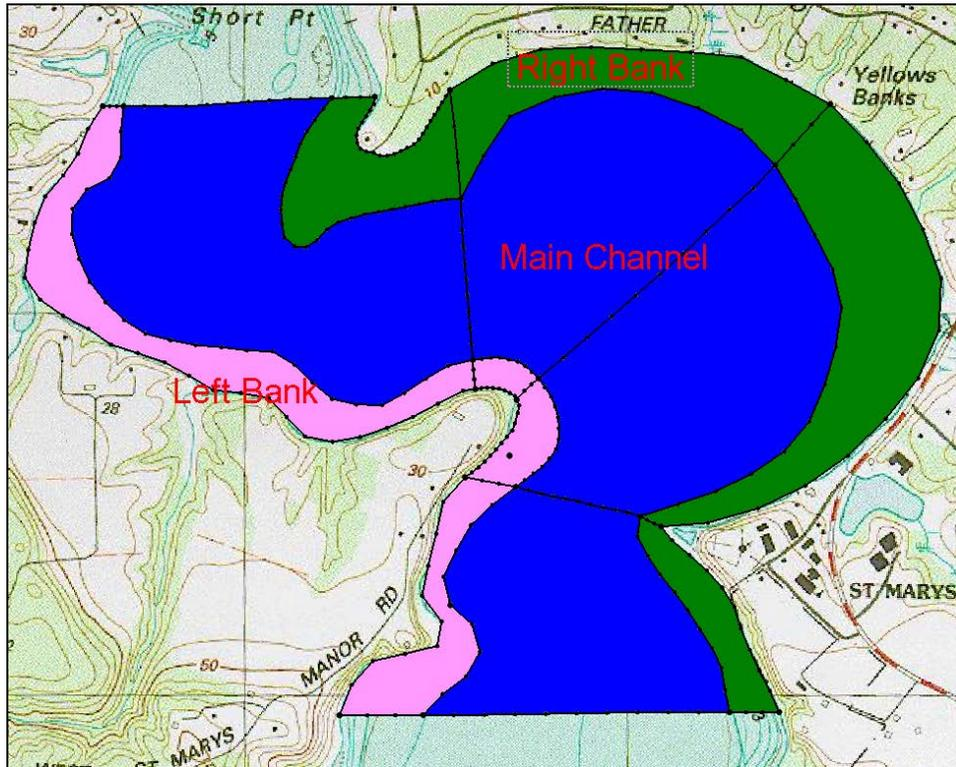

Figure 11 Polygons with defined material types.
9. In the *2D Mesh Polygon Properties* dialog, make sure the *Material* section shows the correct material for the polygon, as shown in Figure 11.